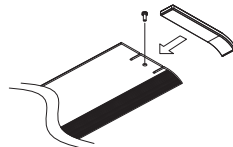

Fig. 16
Step 1. Install end caps to each blade and tighten with screws supplied as shown in (Figure 16).